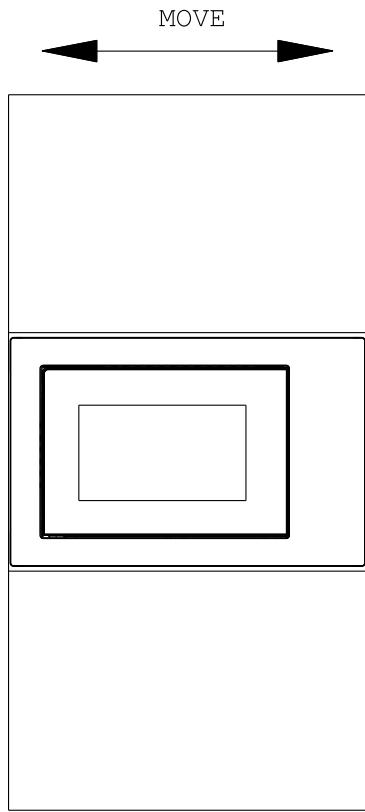

Fig. 3
- c) Move the product in parallel in the kitchen cabinet according to the direction of the arrow in the figure, and keep it centered. (Fig. 3)